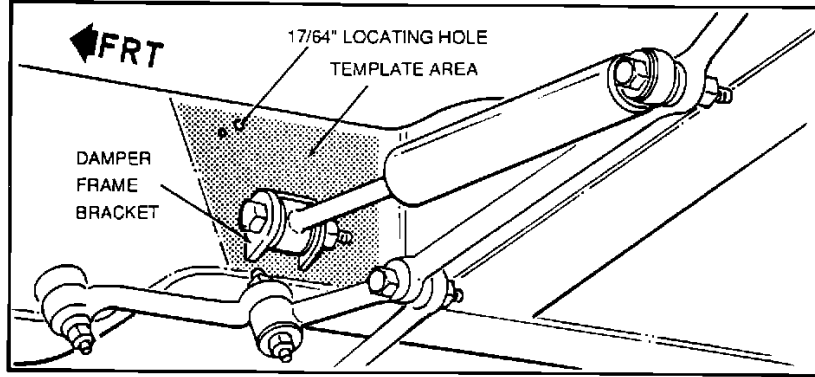

FIGURE 2
9. Install steering relay rod and steering damper following applicable Service Manual procedures in Section 3B3, "Steering Linkage", and those noted in Figure 2.